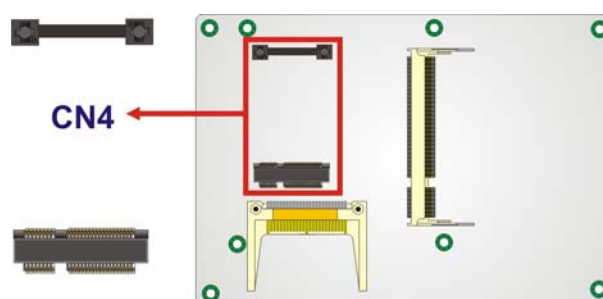

Figure 4-17: PCIe Mini Card Slot Location
- CN Location:** See Figure 4-17